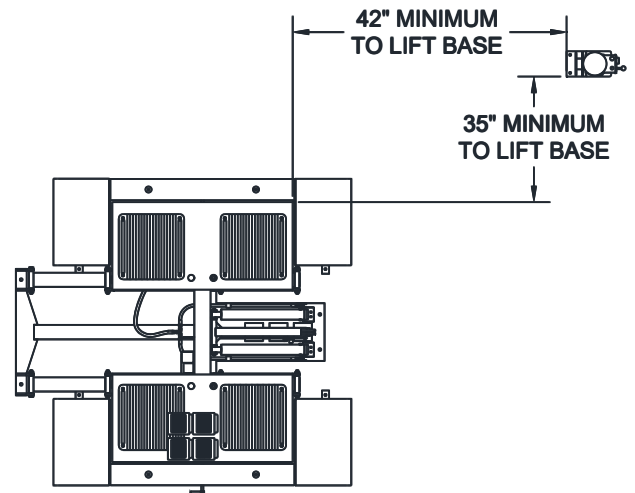

Fig. 5 Power Unit Location
6. Place Power Unit Stand as shown in Fig. 5 for surface mount or flush mount applications. Operator should be in a position to notice any misalignment of lifting pads or vehicle during operation. Challenger Lifts does not recommend placing the Power Unit in a different location or orientation and doing so would be the responsibility of the installer and/or end user.
24. For **Surface Mount only**, there are (8) 5/8" diameter holes in the ramp forms for use with 1/2" anchor bolts. Use the holes in the ramp forms as a template and drill holes. Insert anchor bolts into holes but do not tighten yet.
25. For **Surface Mount only with Cover Acc**, use the nine 20" hose covers and one corner cover to protect the hose in a desire path using Fig. 5. Drill Ø1/4" holes using the hose covers as a template and secure the covers to the floor with the provided 1/4" drive anchors.
27. For **Flush Mount only**, there are (8) 5/8" diameter holes in the front platforms and (2) 5/8" holes in the lock rod support bracket. Use the platforms as a template and drill holes and insert anchor bolts. Locate lock rod support bracket near lock rod handle and align with pivot block near center of lift base. Ensure bracket does not interfere with bottom of lift structure when lowered before drilling holes. Drill holes and insert anchor